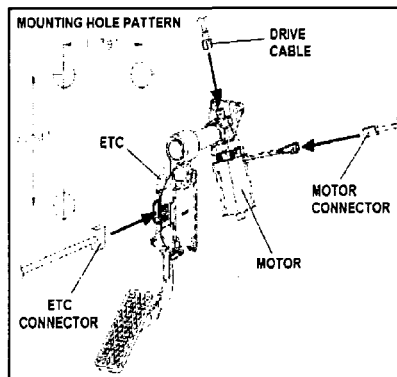

Figure 1
1. Mount the assembly to the firewall using (3) 5/16" fasteners [see Figure 1 or 2].